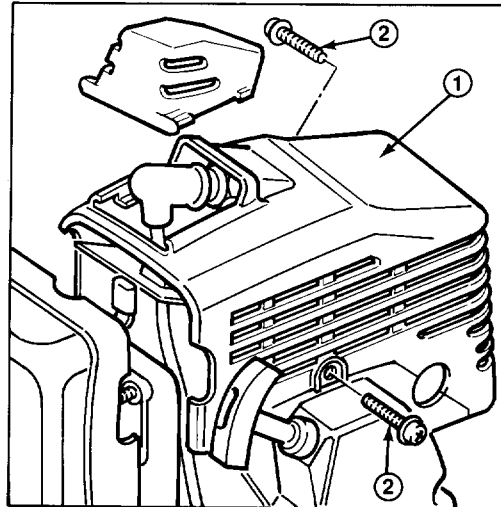

Figure 13
SERVICING MUFFLER (Fig. 13 & 14)
1. Remove two (2) screws securing engine cover to trimmer (Fig. 13).